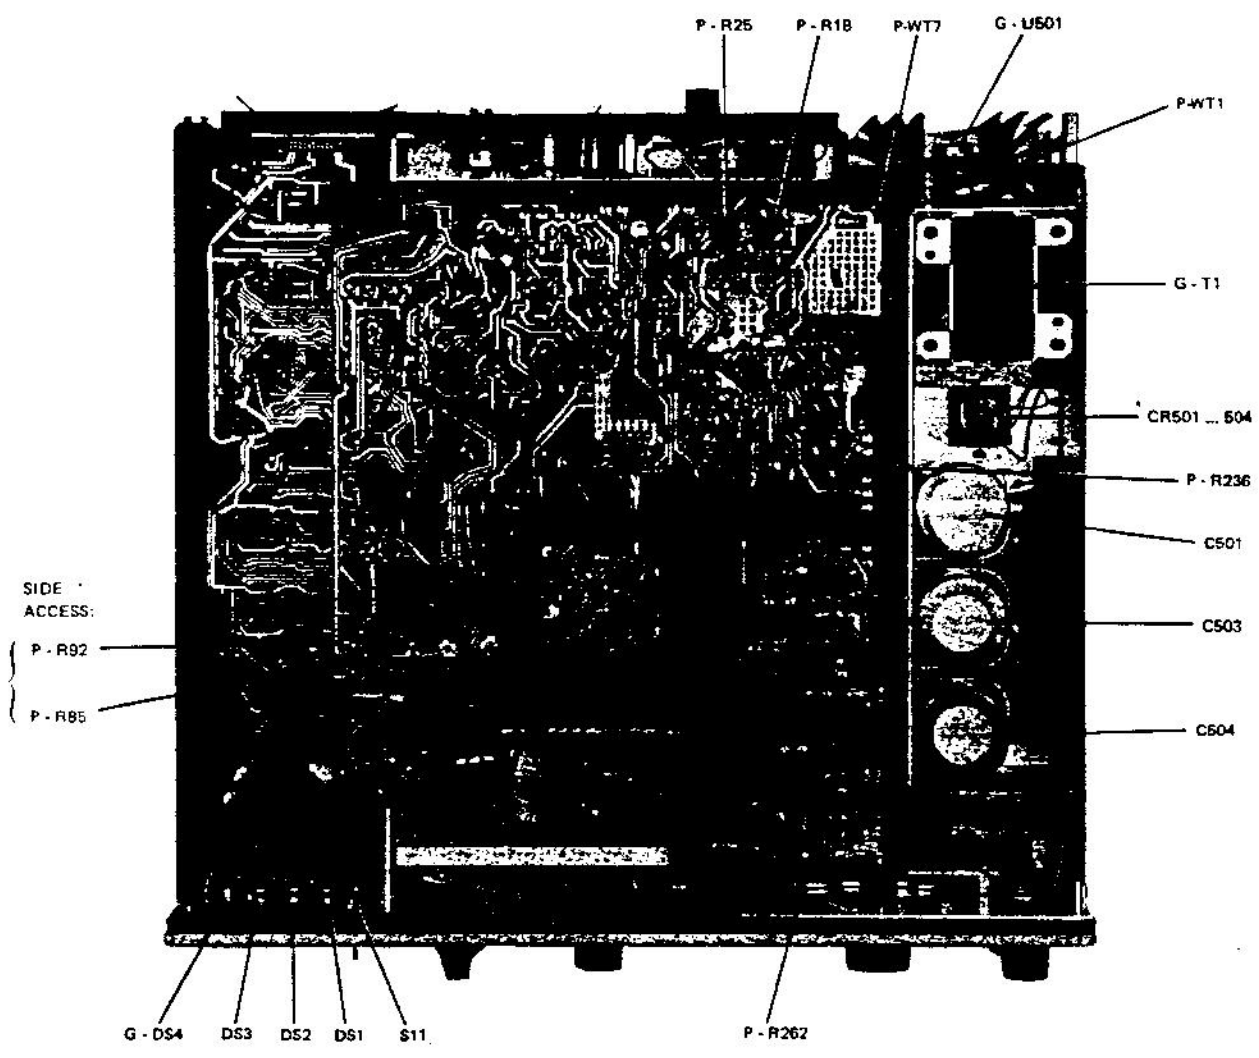

Figure 5-3. Interior bottom view.
5.9.3 Oscillator Checks and Calibration. Figures 5-3, 5-4.